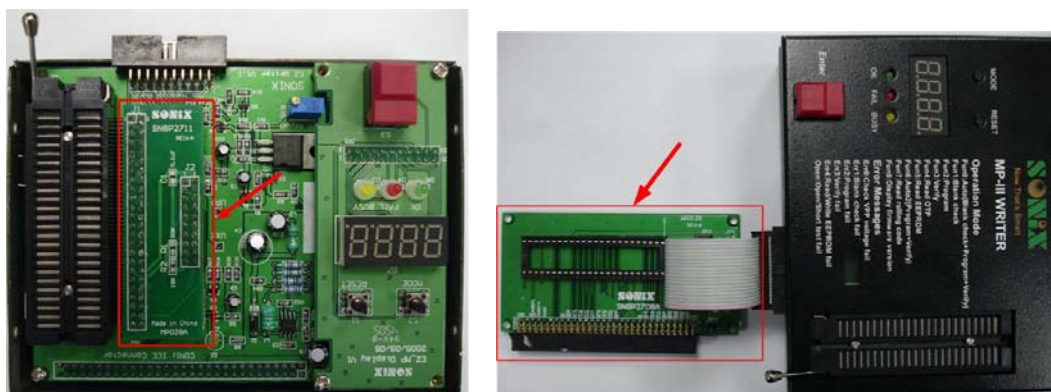

Figure 6 MP-III Writer and programming transition board connection diagram
1. Install corresponding series no. MP programming transition board or V3 programming transition board, as shown in figure 6: